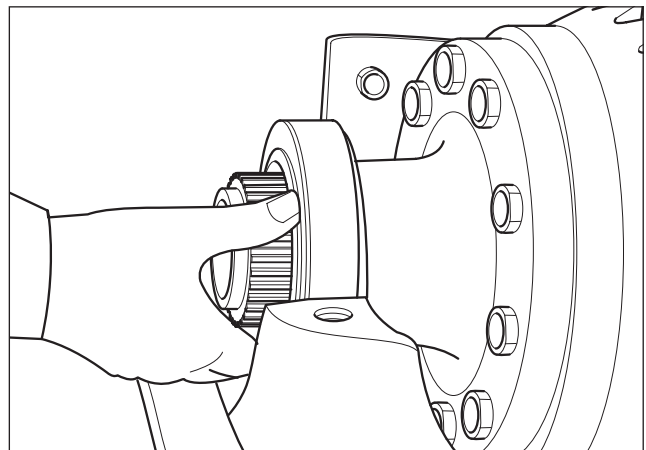

Fig. 2.80
3. Locate new bearing cups on each side. (Fig. 2.80)